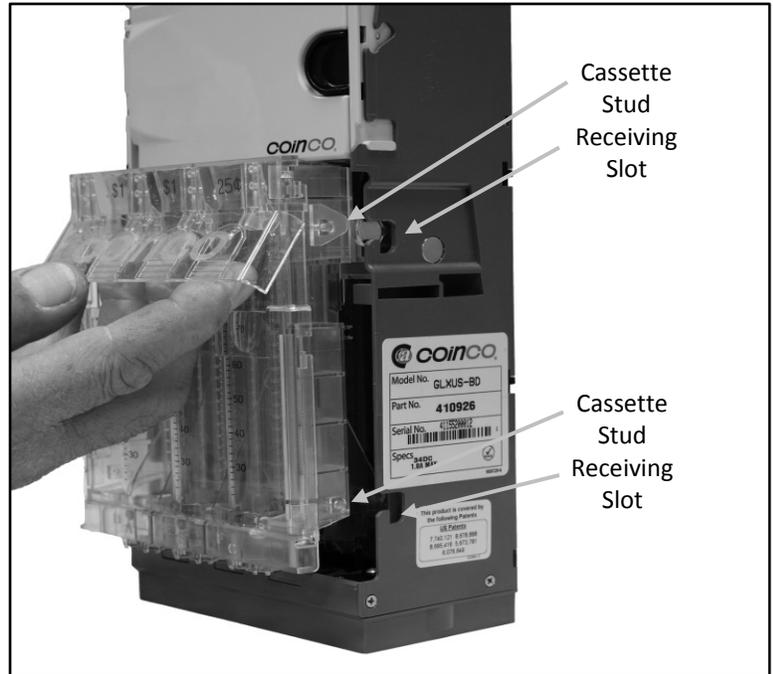

Figure 3. Removing and Reinstalling Lift-out Cassette.
11. Raise the cassette handle and lift the coin tube cassette up, then slide the cassette out of the coin changer housing (See Figure 3).
13. To reinstall the coin tube cassette, the 2 studs located on each side of the cassette must line up with the receiving slots on the changer housing. Use the cassette handle to lift and position the coin tube cassette with the coin changer housing. Slide the cassette into the housing. The coin tube cassette will slide into the housing then drop down against the bottom payout section of the coin changer when it is correctly installed (See Figure 3).